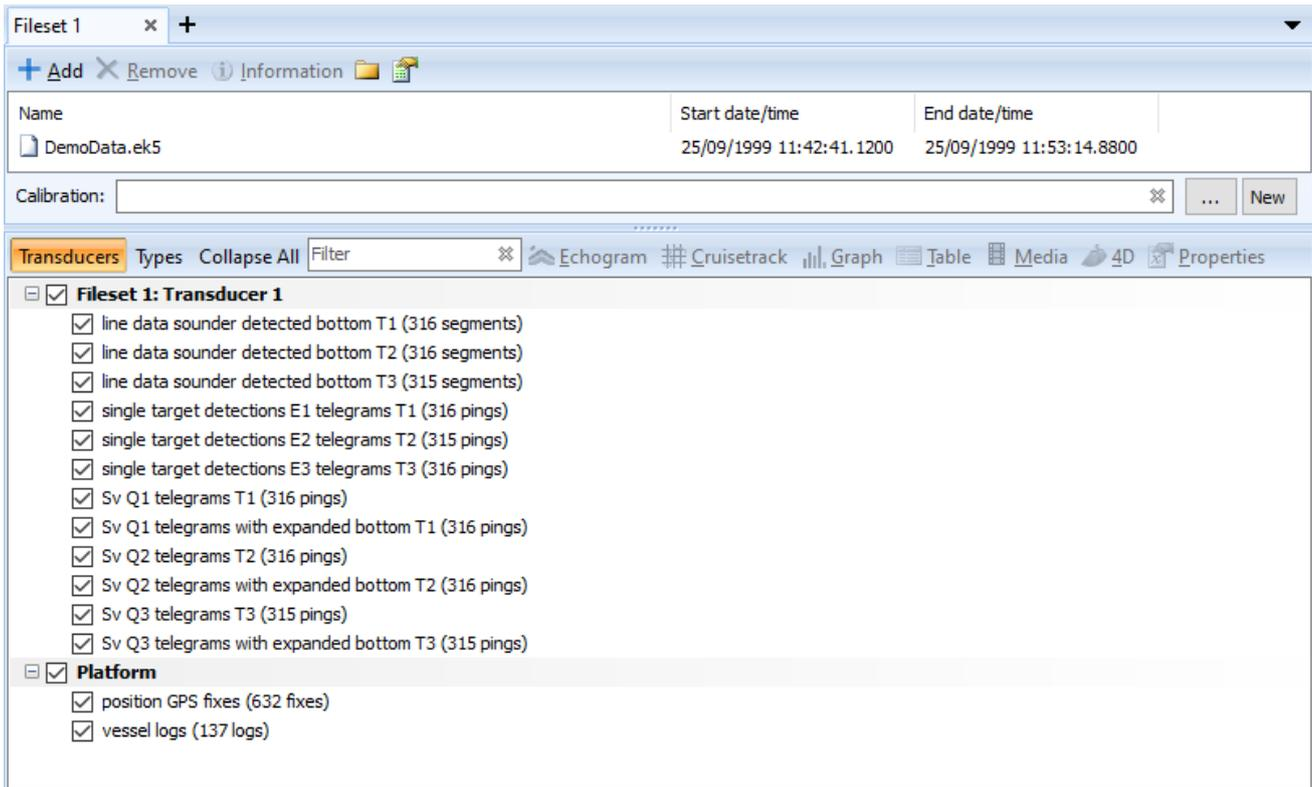

Figure 12. The Filesets window with the Demodata.ek5 data file added.
8. Select the data file `DemoData.ek5` and click **Open**. This closes the explorer window and displays the `DemoData.ek5` file in the **Data Files** section of the Filesets window. This data file contains 14 raw variables that are listed in the **Raw Variables** section (see Figure 12) arranged with respect to Transducer.